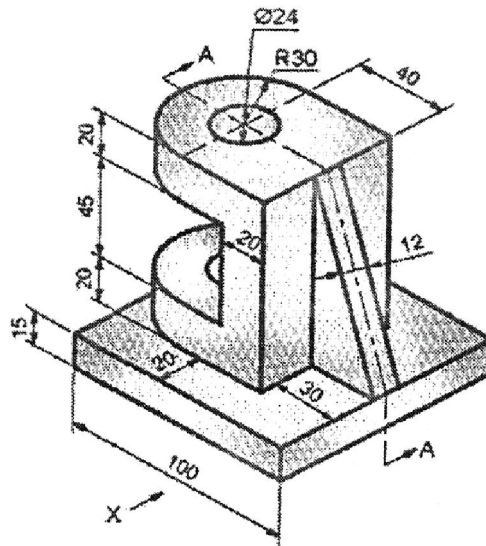

Fig. 4.1
- (a) Fig. 4.1 shows the pictorial view of an object. Draw :